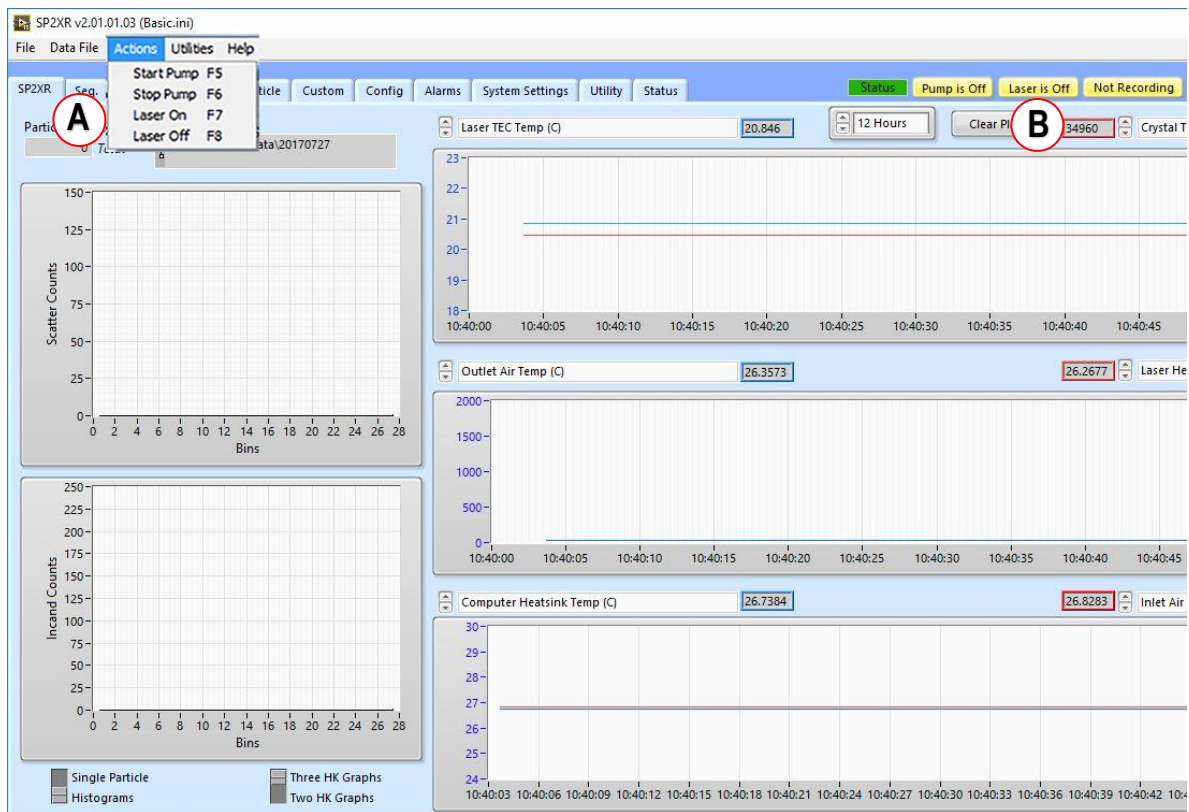

Figure 2: Start the Pump and Laser
- 5.) Toggle on the pump. You should hear the pump activate. **Once** the pump has started, it is safe to toggle the **Laser on** (**B**) from the **Actions tab** or (F7) (Figure 2).
- 1.) On the SP2-XR software's **Actions** tab (Figure 2), set the **Laser Power Switch** to Off.
- 2.) In the **Actions** tab (A) (Figure 2), turn off the **Pump** switch to the SP2-XR.